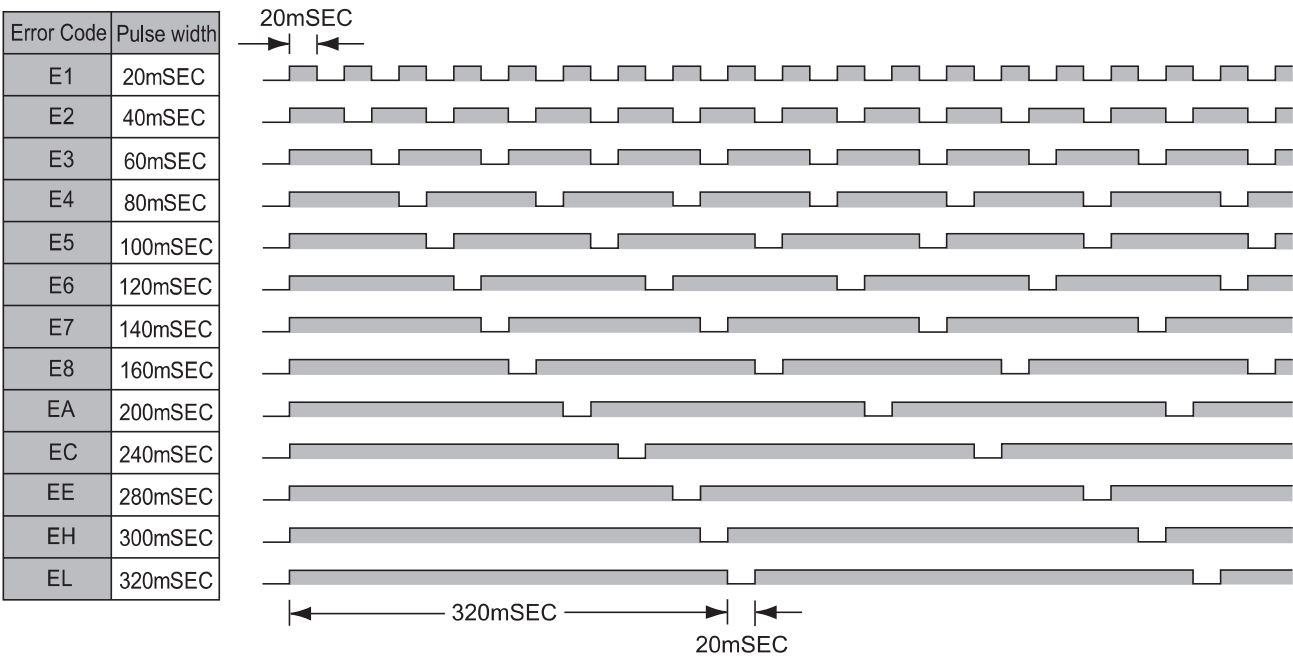

Fig. 44
When an error occurs, an error signal is output to the external Input/Output Connector A ① (terminal No. 8: ERR). (Refer to Fig. 44.)